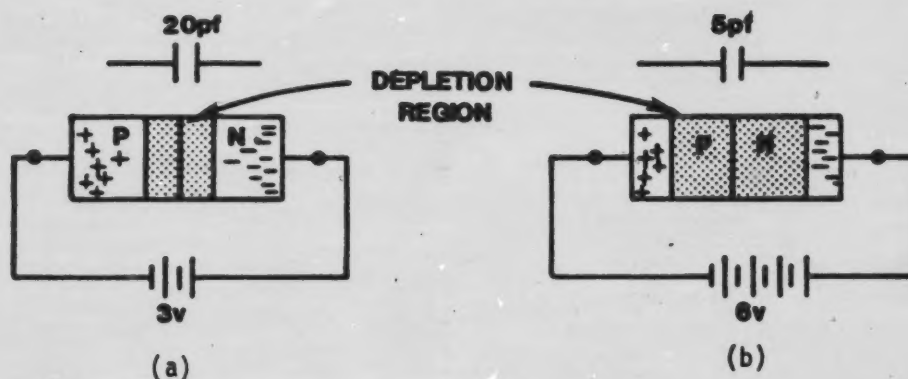

Figure 21
- (23). In a varactor diode, the ratio of capacitance change to reverse bias voltage change may be as high as 10 to 1. An example of capacitance change to voltage change ratios is shown in Figure 21.
In Figure 21(a), the reverse bias is 3 volts which produces a capacitance of 20 pF. If the reverse bias is increased to 6 volts, the change in reverse bias is 3 volts. In Figure 21(b), you can see that at 6 volts the capacitance has dropped to 5 pF, which is a change of 15 pF. Therefore, this example shows a 15 pF capacitance change to a 3 volt reverse bias change. Simple division shows that the change ratio is 15 divided by 3, or 5 to 1. You should notice that the increase in reverse bias voltage causes a decrease in varactor capacitance. If the reverse bias voltage were decreased, the capacitance would increase. Also notice that the value of varactor capacitance is very small (picofarad, 10-12 range).